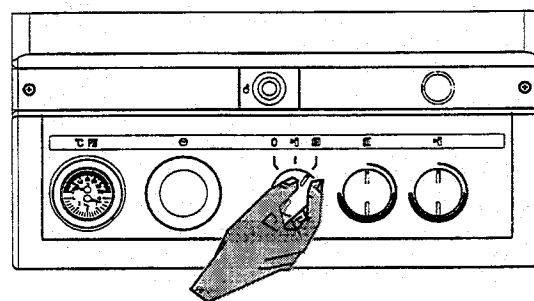

Fig. 5
2.1 With the boiler ON/OFF/Mode selector switch turned to  (fig. 5) (if external controls are fitted e.g. timeclock and/or room thermostat ensure they call for heat) the boiler will now go through an ignition sequence and the burner will light. (view through sight glass 1).